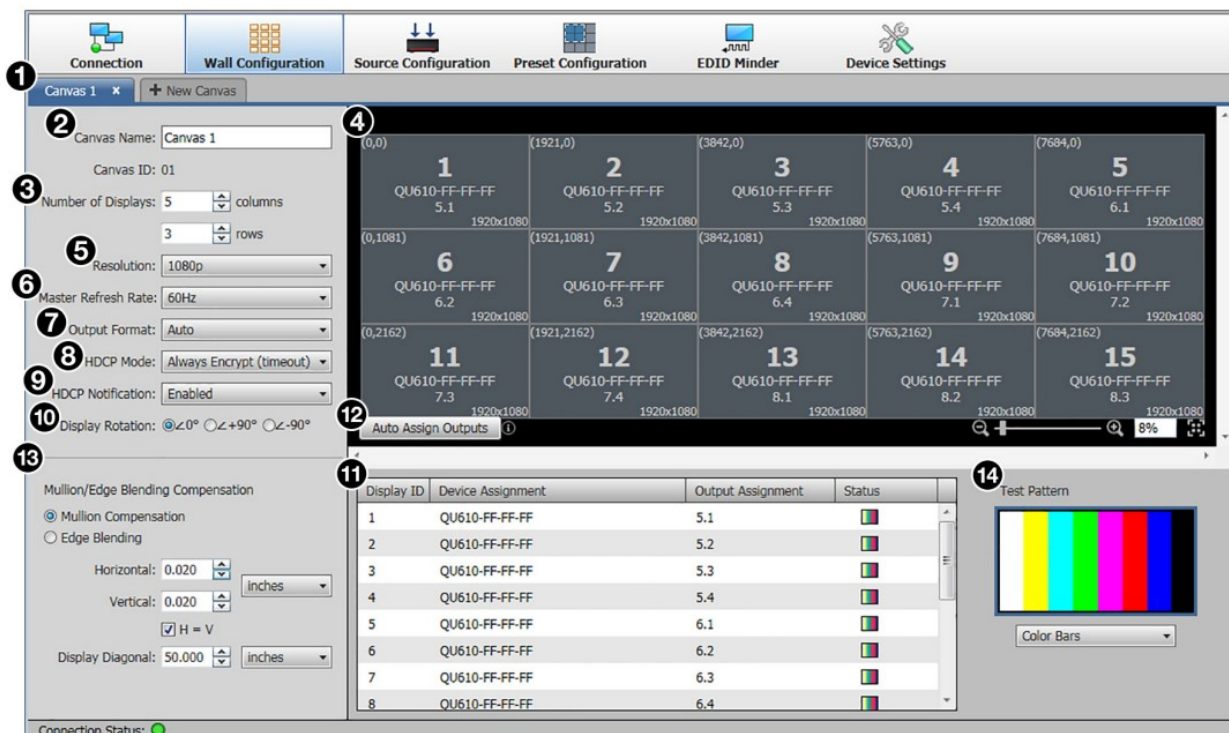

Figure 3. Wall Configuration Screen
The Wall Configuration screen appears, providing a Canvas to set up the wall (see figure 3 on the previous page).
1. Name the Canvas. By default, the first videowall configuration (Canvas) you will define is named Canvas 1 (see figure 3, 1). In the Canvas Name field, you can customize the name if desired (2). Each Canvas that is created (a maximum of 10) is assigned an incremented number that appears in the Canvas ID field and is used in SIS commands.
2. Select the number of displays. In the incremental spin boxes labeled Number of Displays (3) select or enter the number of displays that will be in the columns and the rows of the videowall. In the example in figure 3, 4 , the wall has five columns by three rows.
- Resolution (5) — From this menu, select the output resolution for the displays.
- Master Refresh Rate (6) — From this menu, select the refresh rate for the displays.